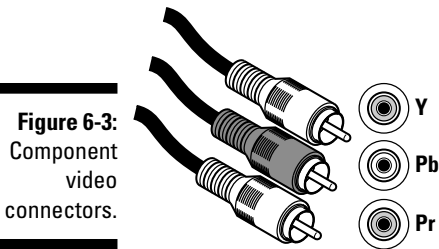

Figure 6-3:
- ✔ **Component video:** The majority of DVD players and most new televisions have component connections, usually in addition to composite and S-video connections. (You also find component video connections on some digital TV receivers — it's one of the most common ways of carrying HDTV signals to an HDTV.) Component video breaks down the video signal into three parts, each carried on a separate cable. This breakdown lets you avoid much of the internal circuitry in both your DVD player and your TV, so you get a better picture. At least that's what all of the videophiles we know tell us. You can see component video connectors in Figure 6-3.